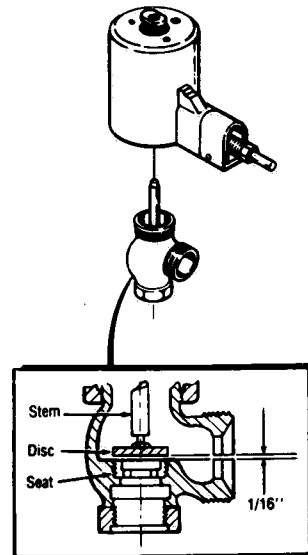

Figure 7-13. HI-LO VALVE ADJUSTMENT.
1. Screw valve seat (21) into body. (Hex side down.)
2. Replace stem and disc (20) in syphon (19), and screw bonnet onto body.
3. Position fork (9) on bottom plate (13). Insert pivot pin (10) and cotter pins.
4. Screw reinforcement (4) onto bellows, and fasten to cover with two screws (2).
5. Set lower spring plate (8), spring (7), and top spring plate (6) in place. See that the lugs on the spring seat are properly positioned in the fork bearings.
6. Replace cover (1) and bellows (5), and secure cover with the four screws (3).
7. Lower this entire assemblage into position over the syphon, aligning the notches in the bottom plate with the lugs on the bonnet, to allow the bottom plate to seat on the bonnet. Replace screw (12).
8. Turn adjusting screw (18) fully counterclockwise, to remove all tension from the spring. Turn the stem protruding from the bellows to establish a clearance of 1/16 inch between the seat and the disc (Fig. 7-13). If valve was not removed from sterilizer, open side connection to see disc and seat.